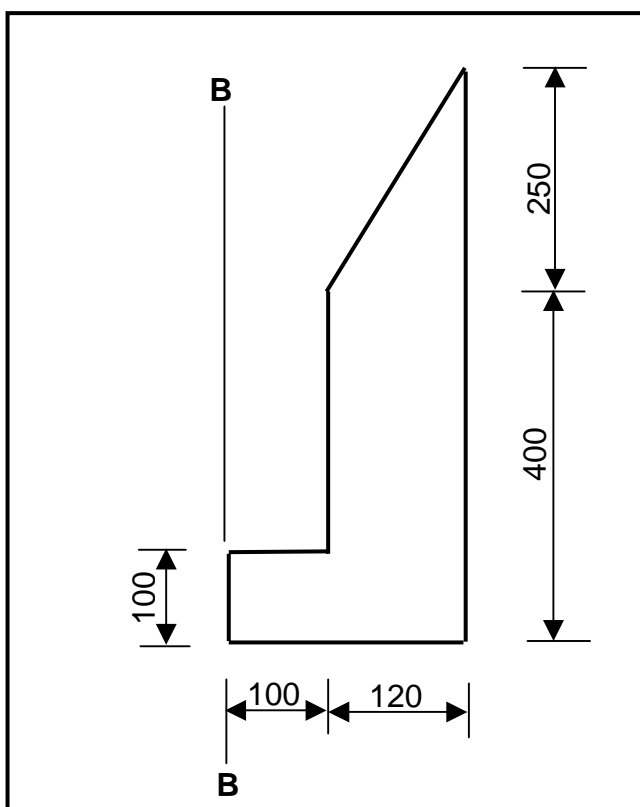

FIGURE 5.2
5.2 FIGURE 5.2 shows the lamina of a figure. All dimensions are in millimetres.